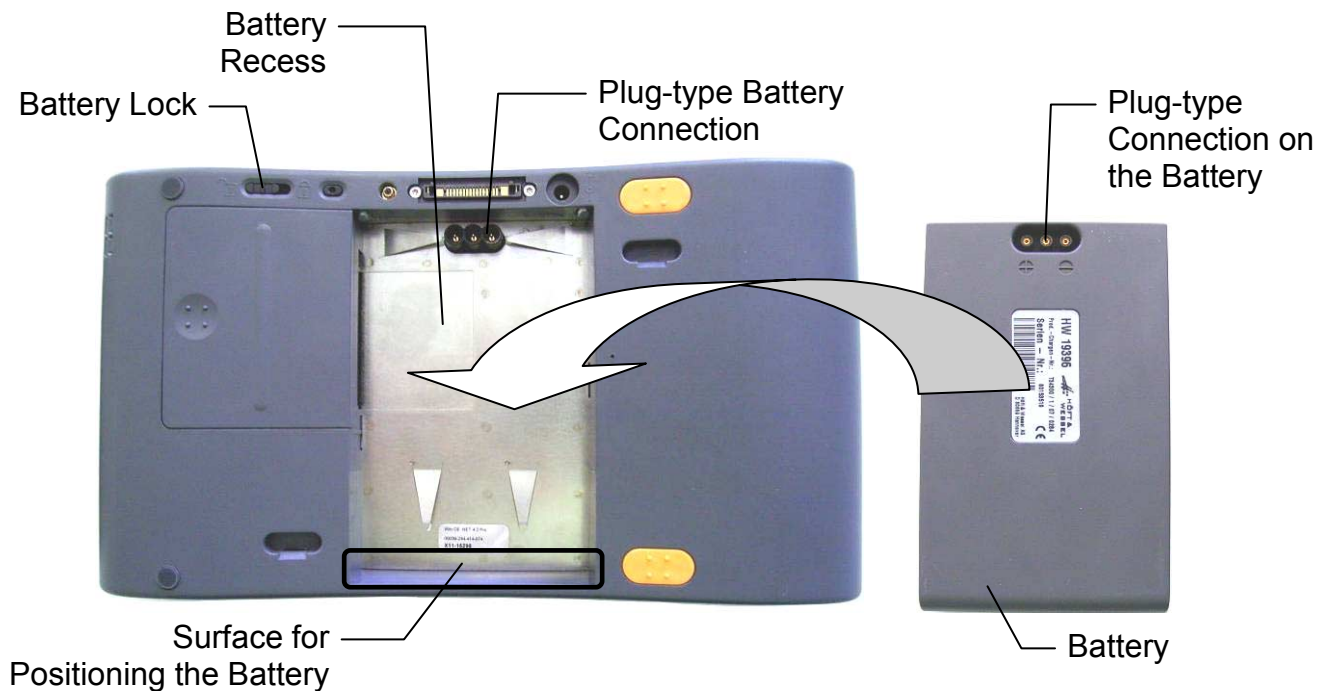

Fig. 6: Rear view of skeye.pad POS with battery removed
2. Place a charged battery with the rounded side facing downwards in the area marked (see Fig. 6) at an angle of approx. 45° or less.